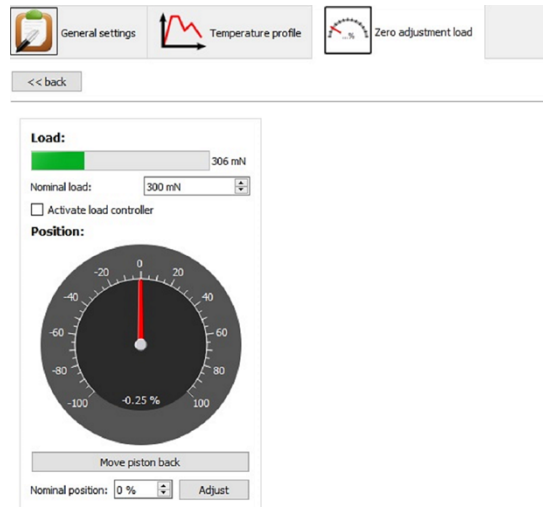

Figure 18. Zero adjustment load tab.
12. Select the zero adjustment load tab in the setup page, see Figure 18, the zero adjustment load tab is in the upper right corner of the pop-up window.
5. Select the zero adjustment load tab in the setup page (refer to figure 18).